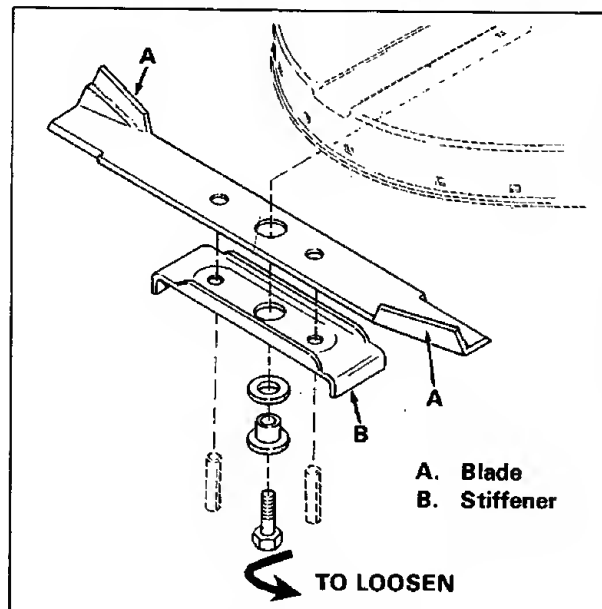

Figure 1
3. Place the special blade provided onto the shaft so that the lift plates (item A, figure 1) point toward the housing. Then place the blade stiffener (item B) on the shaft centered over the blade. To help align the stiffener and blade, capscrews or pegs may temporarily be inserted through the guide holes.